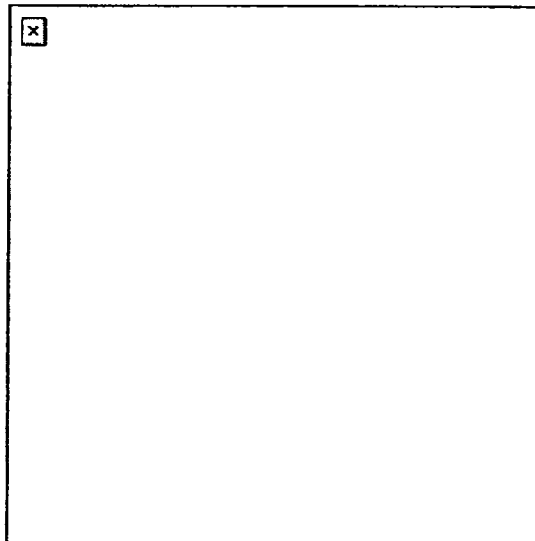

Figure 191-376-4121-1
- a. Put the thong over your right thumb as shown in Figure 191-376-4121-1 and bring it around so that the thong wraps over the back of the hand as shown in Figure 191-376-4121-2. This is called the baton thong position.